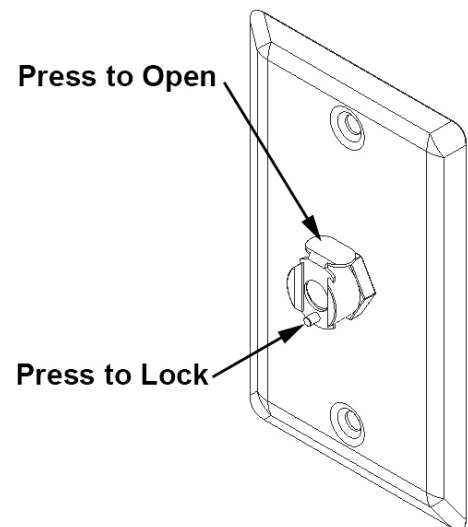

Figure 7 - Operation of Quick Disconnect Plate fitting
Step 7 - To operate the quick disconnect mechanism, press the flat top lever on the *Quick Disconnect Plate* until the button on the bottom side of the fitting pops out (Ref. Figure 7). This will lock wall plate's receptacle in the open position and allow insertion of the *Quick Disconnect Fitting*. Once the *Quick Disconnect Fitting* has been fully inserted into the wall plate, press the button on the bottom side of the fitting to lock it in place.